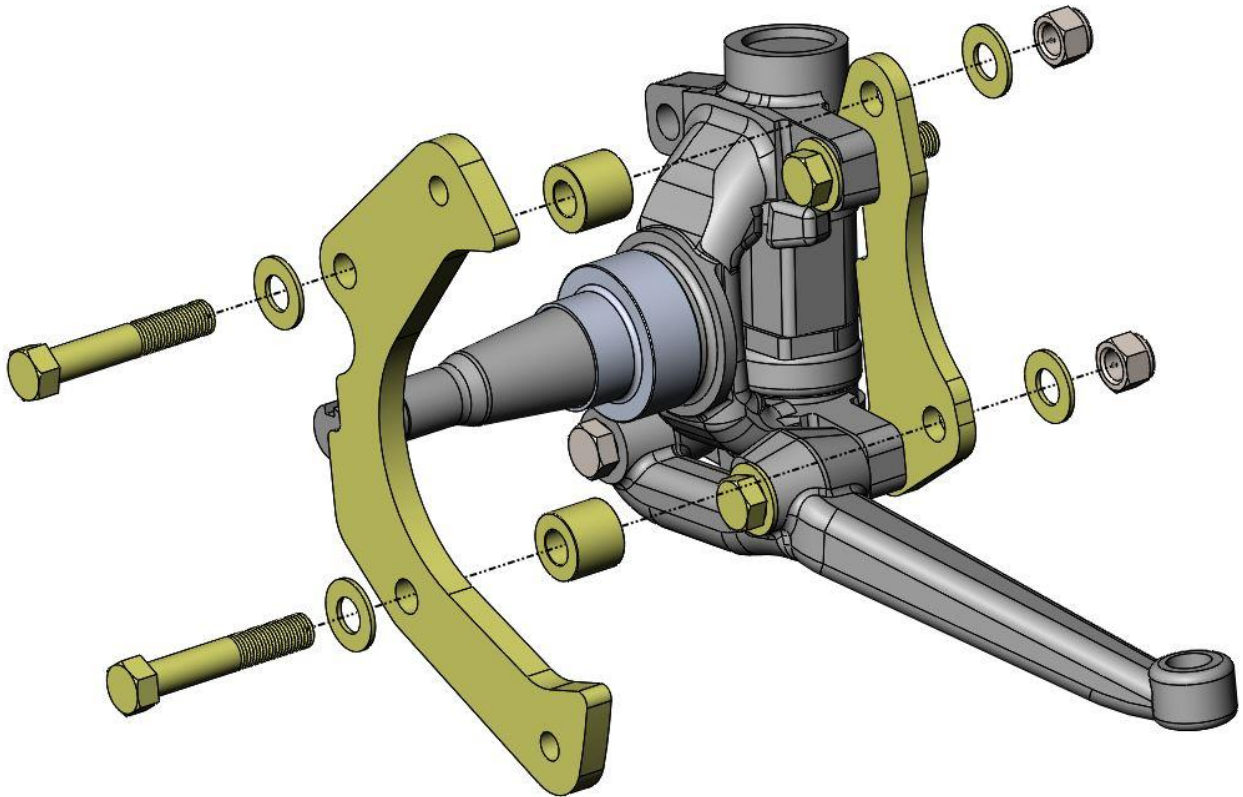

Figure 3 – Primary Caliper Mounting Bracket Installed (Driver Side Shown)
7. Using two Spacer Bushings, place them against the Secondary Bracket followed by the Primary Caliper Mounting Bracket. The brackets install on the outside of the Secondary Mounting Bracket. Insert a 7/16"-20 x 2-1/2" Grade 8 Hex Head Bolt and Flatwasher through the brackets and bushings. Use a 7/16"-20 Nyloc nut and torque the bolts to 55 ft/lbs. Figure 3 on the next page shows this bracket installation.